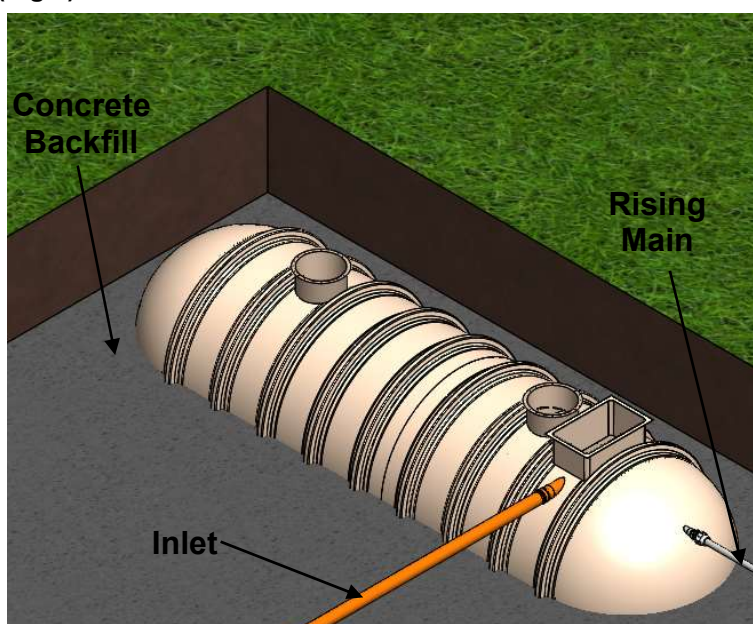

Figure 4
- 4.16. Connect the site pipework (rising main) from the outlet on the pump chamber to the external pipework (**Fig 4**).
- 4.18. Place concrete backfill to approximately 300mm deep under and to the sides of the tank, ensuring good compaction to remove voids. DO NOT use vibrating rammers. Continue adding concrete backfill, simultaneously keeping the internal water level no more than 200mm above the backfill level at all times, until the backfill is just below the underside of the outlet drain, giving sufficient room to connect the inlet and outlet pipe work (**Fig 4**).
- 4.19. Connect inlet pipe, rising main pipe work and cable ducting pipes when safe access to the backfill can be gained (**Fig 4**).